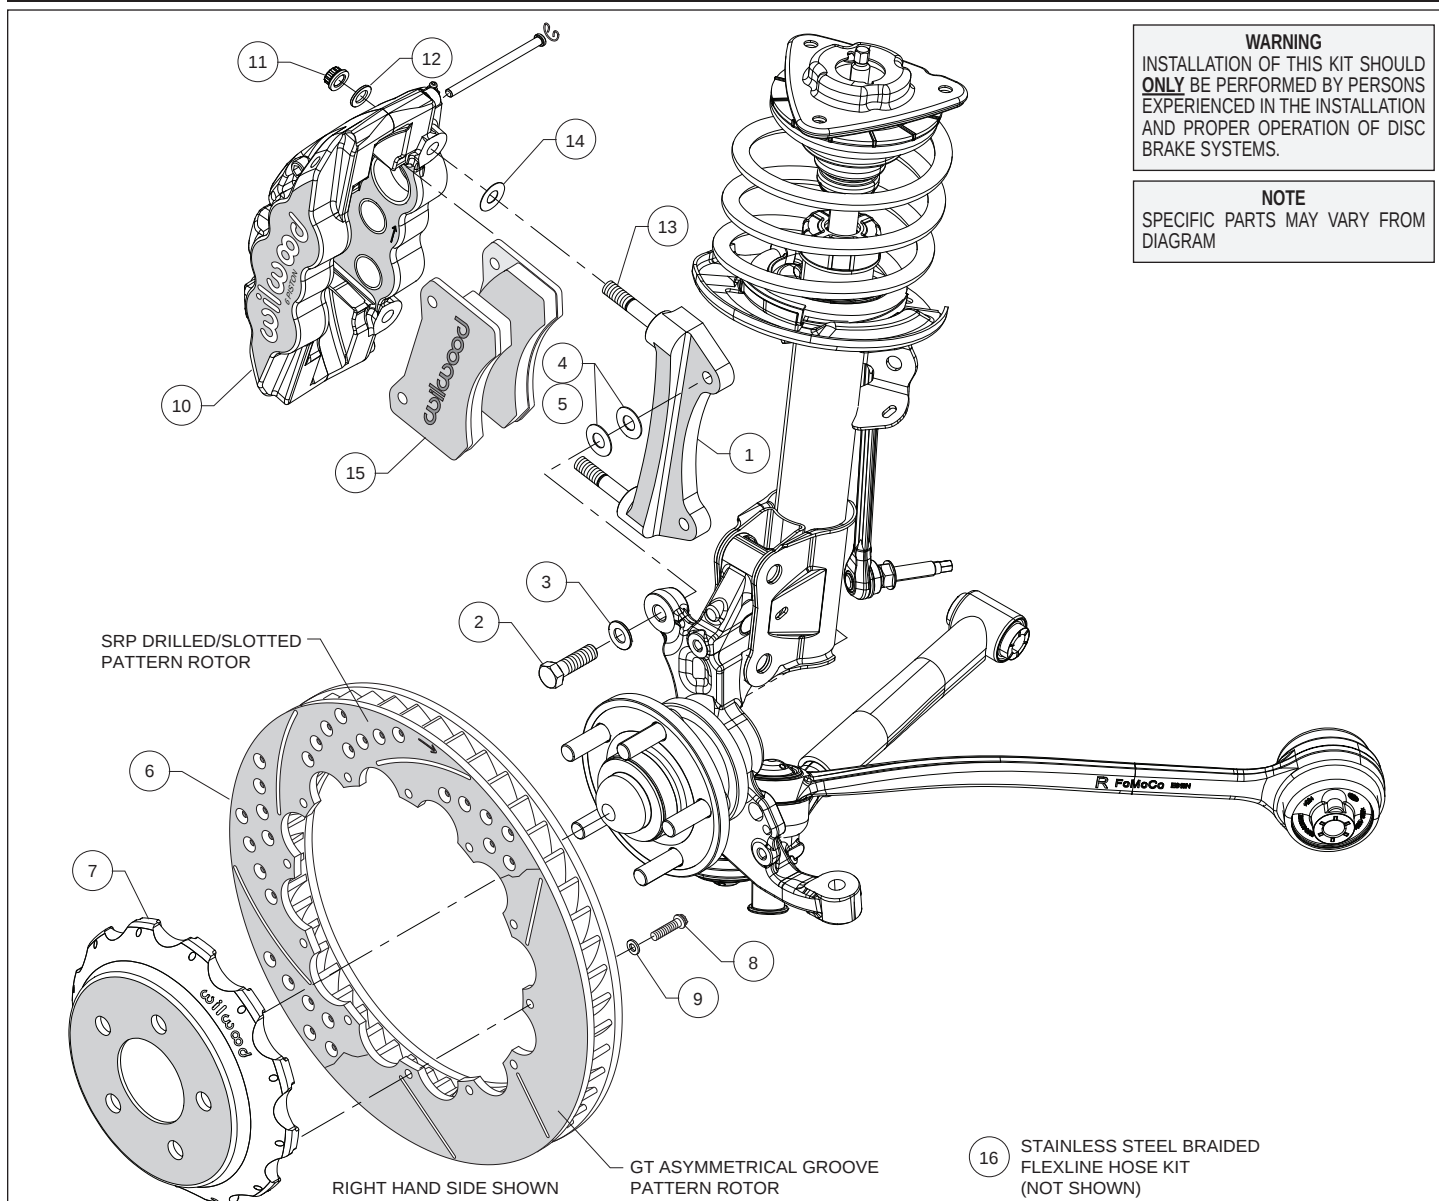
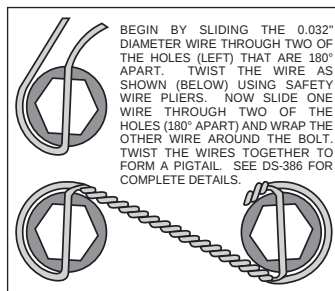

Figure 1. Typical Installation Configuration
Figure 3. Safety Wire Diagram
Assembly Instructions (numbers in parenthesis refer to the parts list and Figure 1 on the preceding pages):
- The caliper mount bracket (1) should initially be installed with clean, dry threads on the mounting bolts. Orient the bracket, as shown in Figure 1 and Photo 1, and install using bolts (2) and washers (3). Initially place two .033" thick shims (4) on each bolt between the bracket and upright, Figure 1. Temporarily tighten the mounting bolts. **NOTE: The bracket must fit squarely against the mount bosses on the upright.** Inspect for interference from casting irregularities, machining ridges, burrs, etc. Later, after the caliper alignment has been checked, the mount bolts will be secured using red *Loctite*® 271.
- Orient the rotor (6) and the hat (7) as shown in Figure 1 and Photo 2. Attach rotor to hat using bolts (8) and washers (9). Using an alternating sequence, apply red *Loctite*® 271 to the threads, and torque to 155 in-lbs. For an added measure of security, the bolts may be safety wired using standard 0.032 inch diameter stainless steel safety wire as shown in Figure 3. Refer to Wilwood's data sheet DS-386 (available at www.wilwood.com/Pdf/DataSheets/ds386.pdf) for complete safety wire installation instructions.
- NOTE: This kit contains distinct right and left hand calipers that must be mounted in a specific direction, as described below.** Lubricate the caliper mounting studs (13) with lightweight oil. Initially place one .030" thick shim (14) on each stud between the caliper and the bracket, as shown in Figure 1 and Photo 4. Mount the caliper (10) onto the bracket (1) using lock nuts (11) and washers (12), Figure 1. Temporarily tighten the lock nuts. Ensure that the caliper is mounted so the largest pistons are at the rotor exit end of the caliper, in relation to the direction of the rotor. View the rotor through the top opening of the caliper. The rotor should be centered in the caliper, Photo 5. If not, adjust by adding or subtracting shims (4 and/or 5) between the bracket and the upright. Always use the same amount of shims on each of the two mounting bolts. Once the caliper alignment is correct, remove the bracket mounting bolts one at a time, apply red *Loctite*® 271 to the threads, and torque to 60 ft-lbs.
- Remove the two pad retaining pins from the caliper (10) by carefully popping out the pin retaining clips and sliding out the pins. Insert the brake pads (15) into the caliper from the bottom, Figure 1 and Photo 6. With the friction material facing the rotor, secure the brake pads in place with the pad retaining pins and clips, Photo 7. Reinstall the caliper onto the caliper mounting bracket and temporarily tighten the lock nuts. Check that the top of the brake pad is flush with the outside diameter of the rotor, Photo 8. If not, adjust by adding or subtracting shims (14) between the caliper and the bracket. After the caliper pad height is set, torque the caliper lock nuts (11) to 47 ft-lb.